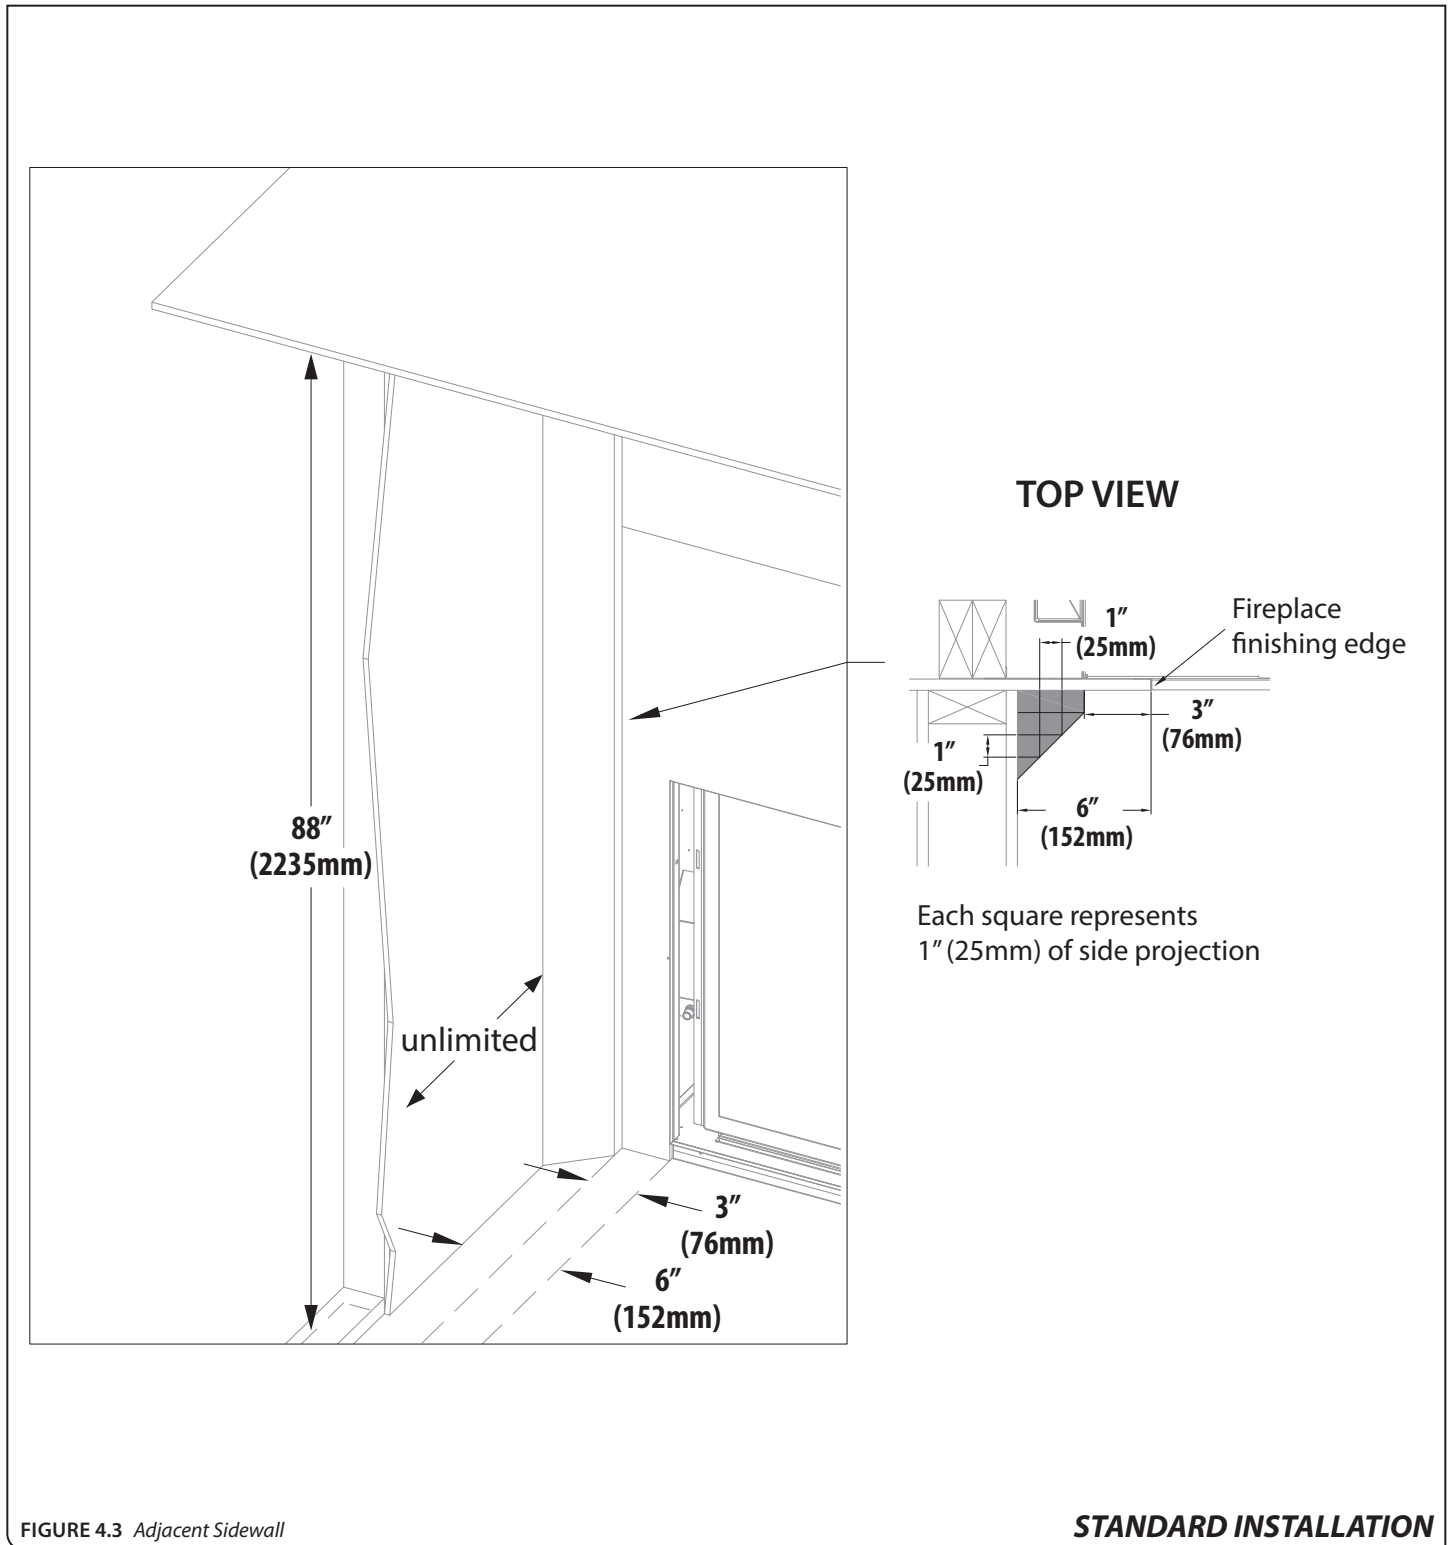

FIGURE 4.3 Adjacent Sidewall
- **Mantel Leg:** Follow "Side Combustible Clearance" below. See **FIGURE 4.3** on page 35.
- **Side Combustible Clearance:** 1" (25mm) combustible side trim projection starts at 3" (76mm) from the side finishing edge. After the first 6" (152mm) from the side finishing edge, the combustible side trim projection is unlimited (unrestricted). See **FIGURE 4.3** on page 35.
- The adjacent sidewall minimum clearance is 6" (152mm) from the side finishing edges of the fireplace. See **FIGURE 4.3** on page 35.